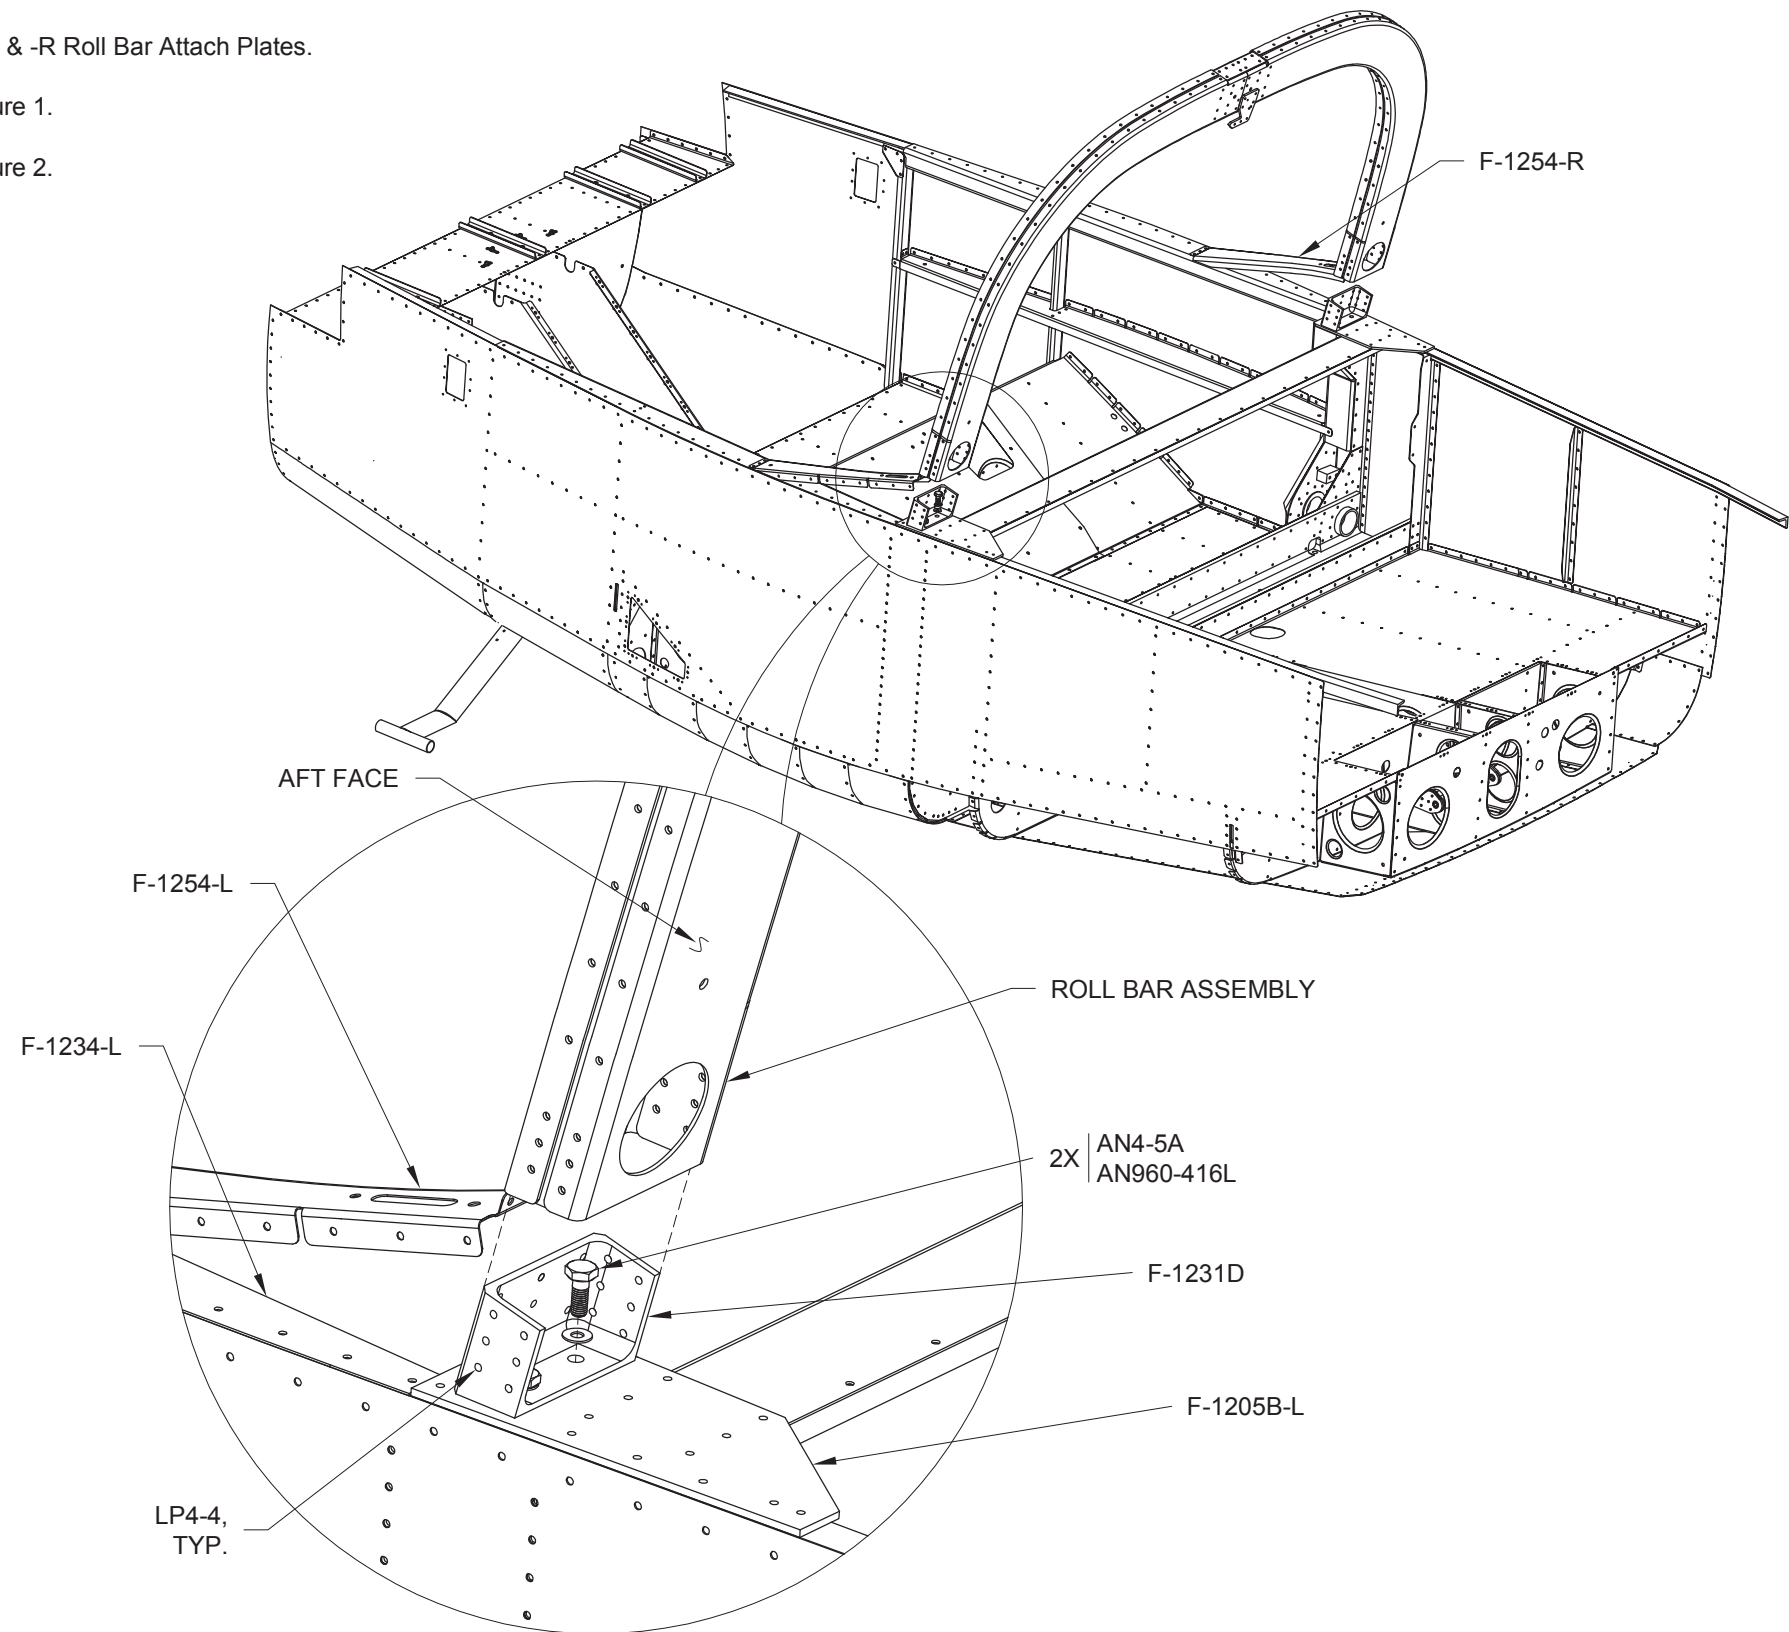

FIGURE 1: INSTALLING THE ROLL BAR ASSEMBLY
Step 1: Cleco the F-1207C-L & -R Baggage Bulkheads to the Tailcone Assembly as shown in Figure 1.